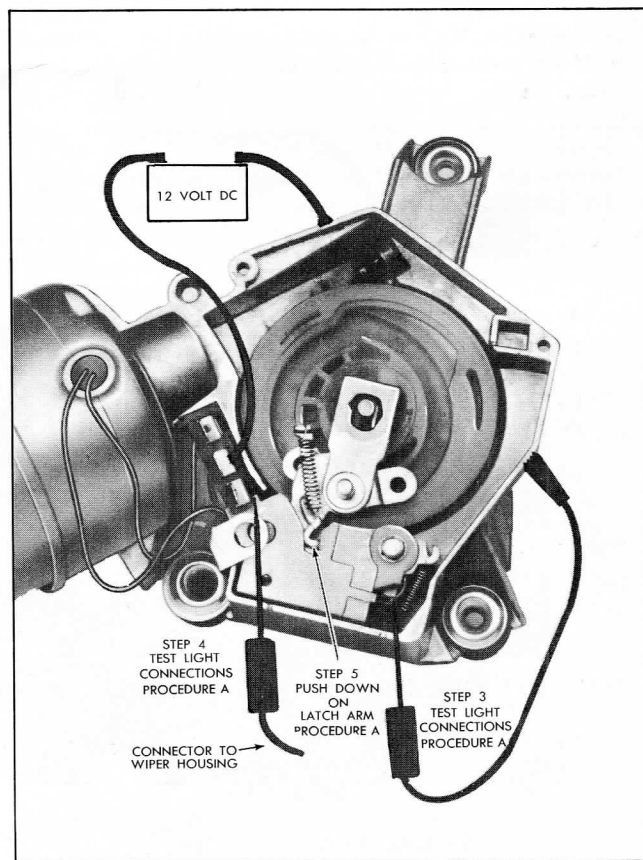

Fig. 12-40 Jumper Wiring for Bench Check—Pontiac and Optional Tempest
1. Observe if relay latch arm spring is connected properly (Fig. 12-40).
3. If items in 1 and 2 check out, connect power source to wiper and connect jumper wire from terminal No. 3 to wiper housing (Fig. 12-40). Do not make any connections from terminal No. 1. Manually actuate latch arm in direction of arrow (Fig. 12-40) and observe if it remains in energized position (inside plastic switch housing out of path of gear drive pawl). If it remains in energized position, check for grounded red lead from coil to terminal No. 1. If red lead is not grounded, coil is probably grounded internally and relay switch should be replaced.
1. Check that drive pawl and relay latch arm springs are properly connected (Fig. 12-40).
- b. Connect power source and jumper to wiper as shown in Fig. 12-40 and observe if test light goes out once for each revolution of gear or if light glows steadily. If light glows steadily, relay-switch contacts are not opening and switch is defective. If light goes out each time drive pawl moves into relay switch slot, relay-switch is functioning correctly.